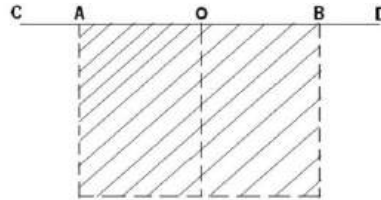

Figure 3: Slope layout (CBPWD guideline, 2005)
The general layout of the pond needs to be defined according to the slope layout and excavation layout. See Figure 3 and 4 below to read the layout.
- Regarding slope layout, if the side slopes are considered to be the same in both sides, the distance of the two sides are equal (see figure 3 side AC & BD). Similarly, distances of OA & OB are as well equal,